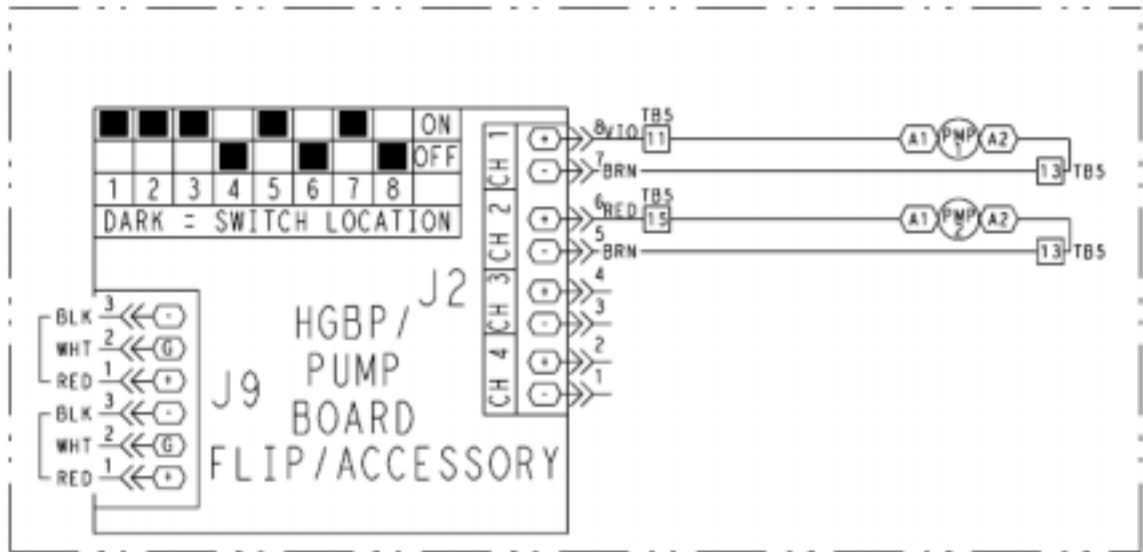

Fig. 2 – Pump Board Address Switch and Wiring for Pump Output
1. Set the board address switch on the pump board per Fig. 2. Mount the pump board in the main control panel with the No. 8 screws (mounting standoffs required for 30XA080-120, 200V, 230V, 380V and 30XA140-500 all voltages). See Fig. 3, 4 for the board mounting place.
4. Connect between TB5-11, 15, 13 and pump board CH1, CH2 in J2 per Fig. 2 with harness assembly provided. Use the pins on the back of TB5. If only one pump available in the system (no backup pump), the wiring for pump board CH2 is not required.
6. Wire the coils of pump contactors to TB5-11, 15 and 13 per schematics shown in Fig. 2 with field supplied 18AWG wires and wire terminals. If only one pump available in the system (no backup pump), the wiring for PMP2 is not required.